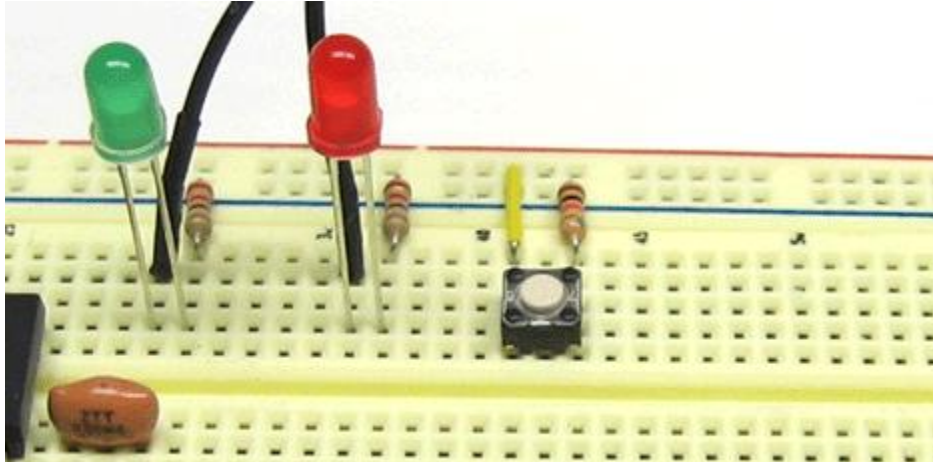

Figure 4. Adding the button.
1. Add the button to the breadboard, putting its pins in holes F41 and F43. Connect one side to ground with a 10,000-Ohm resistor, and connect the other side to power with a yellow jump wire, as shown in Figure 4.